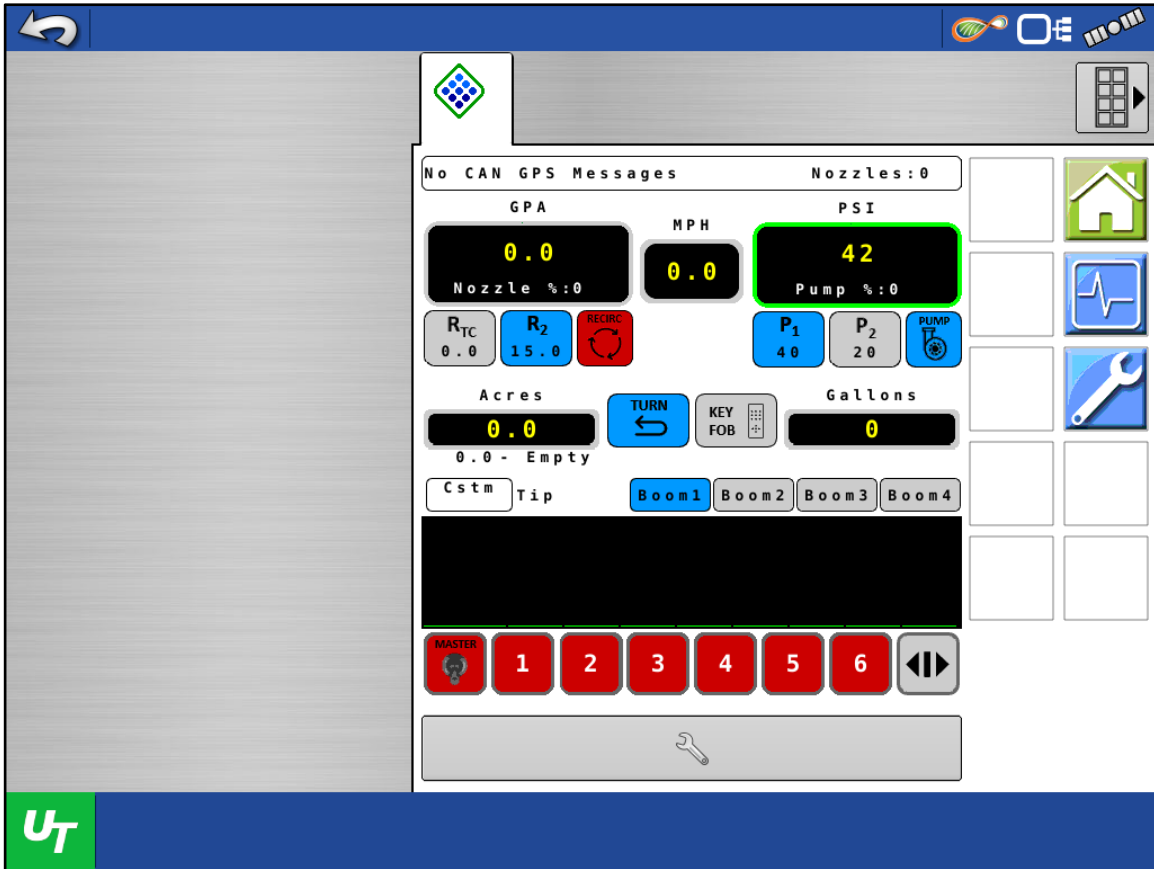

Figure 1 — Task Controller Home Screen
1. *Figure 1:* Select the CapstanAG PinPoint™ III icon  from the program icons on the left side of the task controller screen. This icon may be located in slightly different places depending on the task controller.